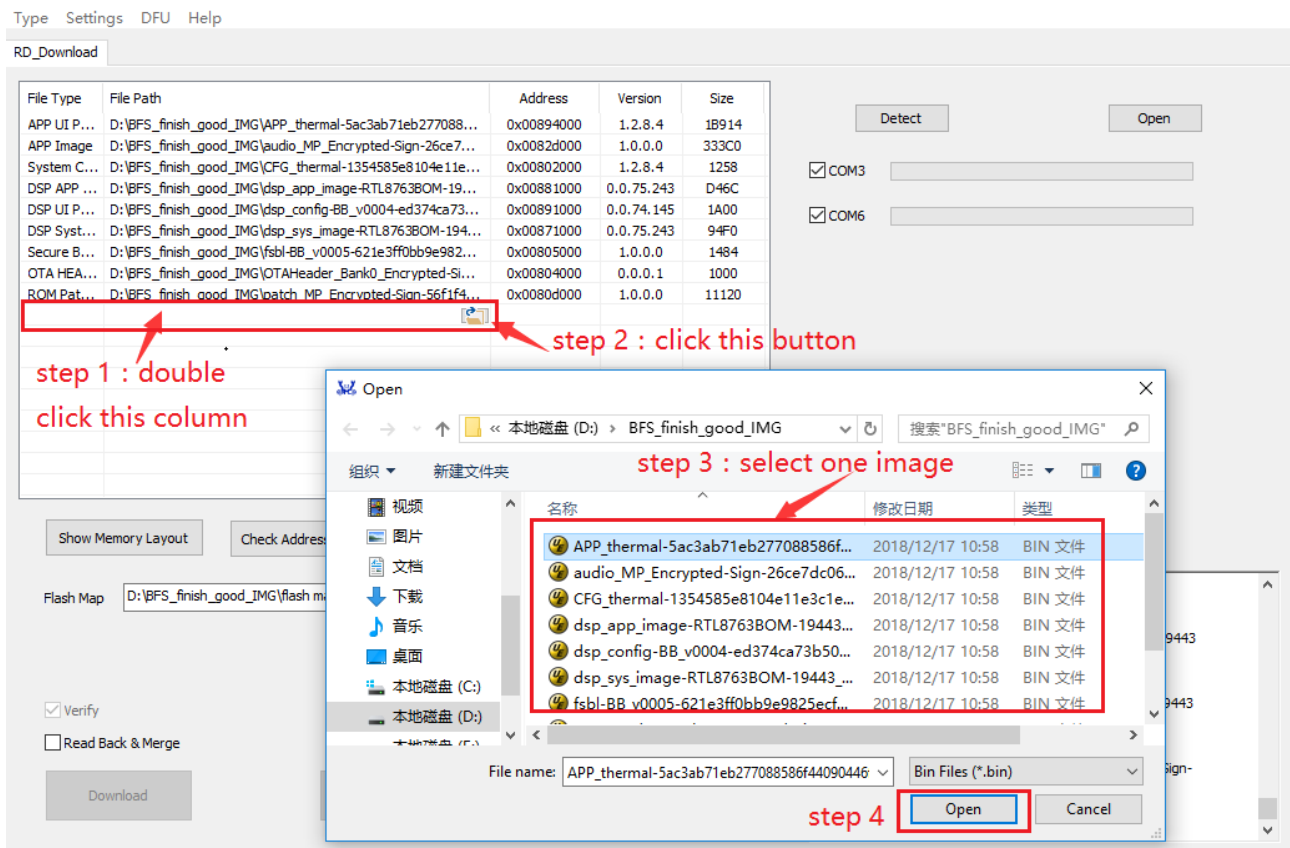

Figure 2-36 Add bin from file path
- 2) Double click "File Path" column in each row firstly, a folder icon will show out. You can type in the image path, or click the folder icon to add an image. As shown in Figure 2-36.